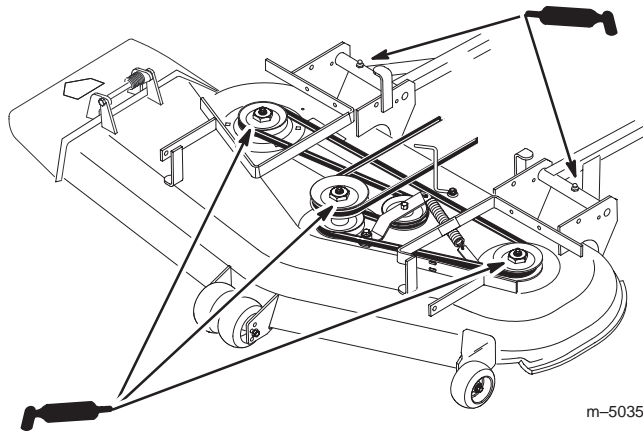

Figure 49
2. Grease the fittings on the three spindle bearings until grease comes out of the lower seals (Fig. 49).
- Grease the fittings on the push arms (Fig. 49).